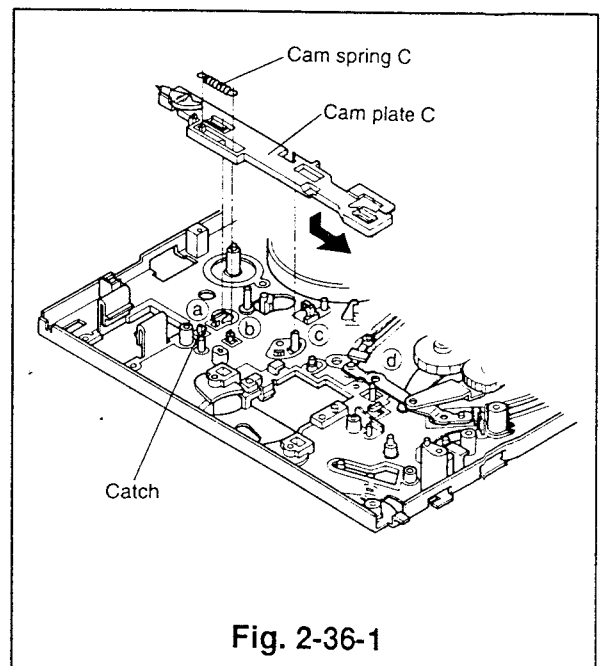

Fig. 2-36-1
- ① Remove the reel belt and the belt pulley. (Refer to Para. 2-28 for the removal method.)
- ② Remove the reel idler assembly. (Refer to Para. 2-35 for the removal method.)
- ③ Remove the loading motor assembly (which holds the motor holder). (Refer to Para. 2-29 for the removal method.)
- ④ Remove the main gear-J. (Refer to Para. 2-30 for the removal method.)
- ⑤ Remove the plate-J, the roller-B, and the cam plate-B. (Refer to Para. 2-33 for the removal method.)
- ⑥ Remove the cam spring-C. (Refer to Fig. 2-36-1.)
- ⑦ Slide the cam plate-C to the left end.
- ⑧ Unfasten the catch and raise the cam plate-C to remove it. (refer to Fig. 2-36-1.)
- ② Position the cam plate-C so that the four points(a), (b), (c) and (d) shown in Fig. 2-36-1 enter into the matching holes and slide it to the right end.
- ③ Install the cam spring-C.
- ④ Install the cam plate-B, the roller-B, and the plate-J. (Refer to Para. 2-33 for the installation method.)
- ⑤ Install the main gear-J. (Refer to Para. 2-30 for the installation method.)
- ⑥ Install the loading motor assembly(which holds the motor holder). (Refer to Para. 2-35 for the installation method.)
- ⑦ Install the reel idler assembly. (Refer to Para. 2-35 for the installation method.)
- ⑧ Install the belt pulley and the reel belt. (Refer to Para. 2-28 for the installation method.)